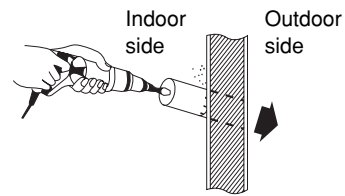

Fig. 10
- Using a sabre saw, key hole saw or hole-cutting drill attachment, cut a hole in the wall. See Table 4 and Fig. 10.